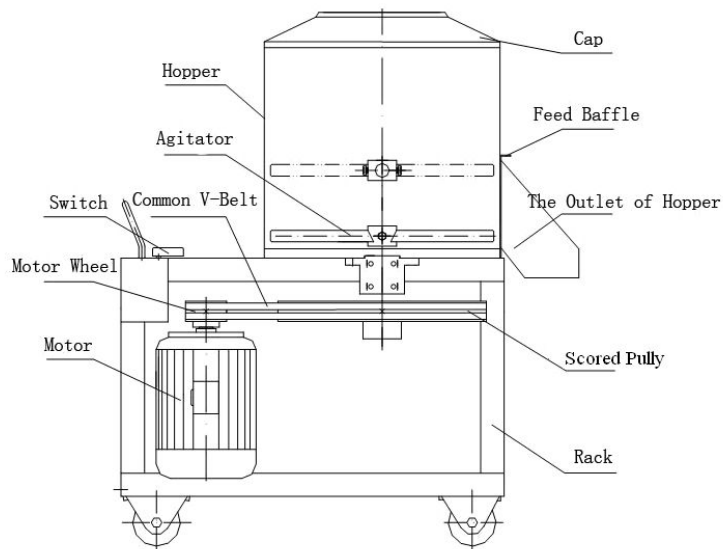

Figure 1. The structure diagram
2.1.1 The Flour-Mixing Machine is consisted of rack, transmission agent, agitator and hopper etc. which is shown in Figure 1.